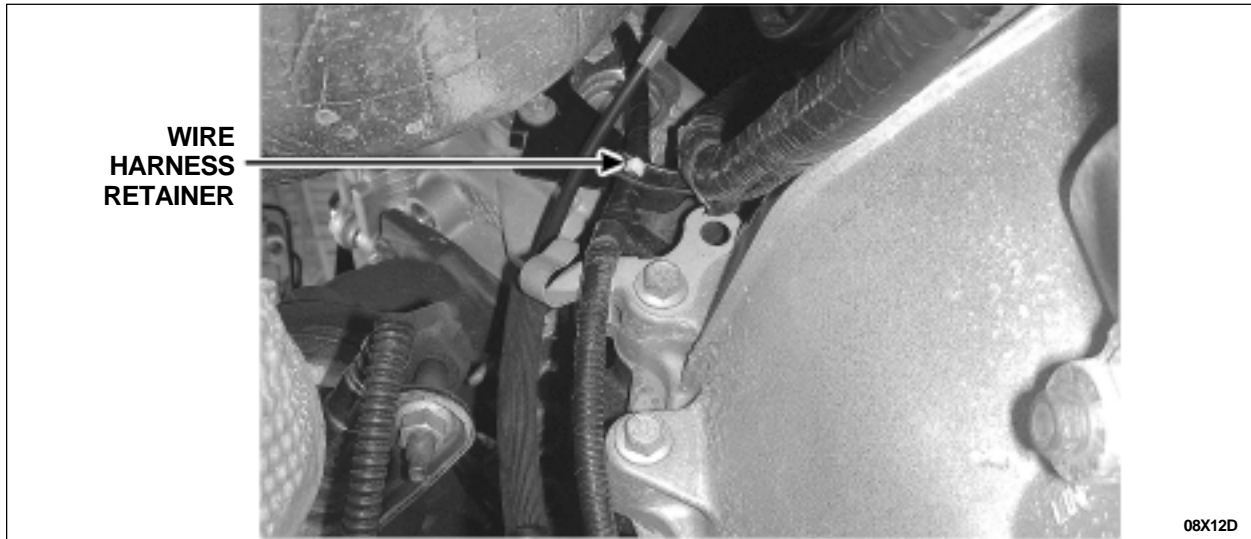

FIGURE 4
5. If present, disconnect the oxygen sensor wire harness retainer. See Figure 4.
6. If present, attach the oxygen sensor wire harness retainer. See Figure 4.